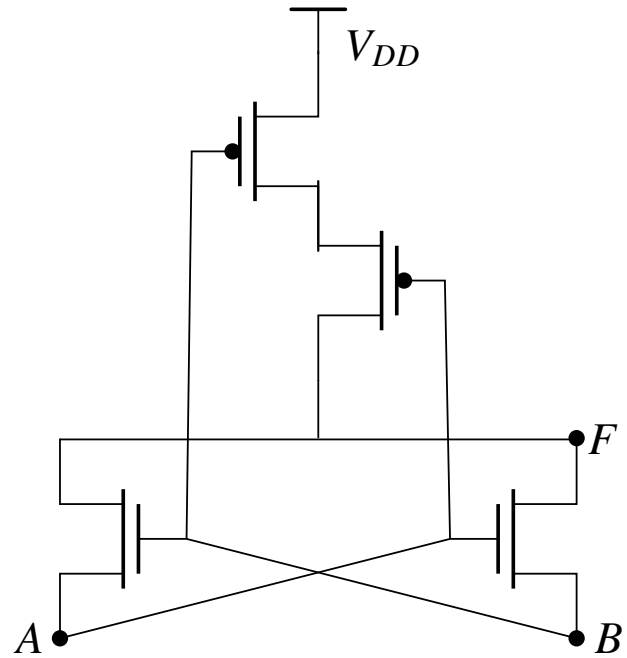

Fig. 3.25: Circuit Diagram
42. In the circuit shown in Fig. 3.25,  $A$  and  $B$  are the inputs and  $F$  is the output. What is the functionality of the circuit? (GATE-EC2019,15)